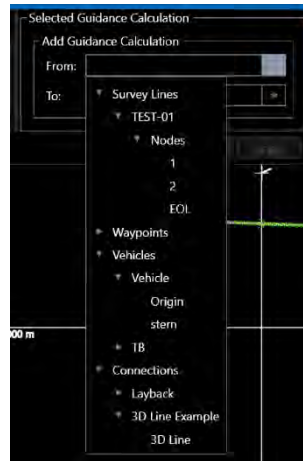

FIGURE 12-6 SELECT FROM OBJECT
3. Expand the **From** drop-down button to select the *From* object. The **From** items are either points or 3D polylines and are presented in a hierarchical tree as shown in Figure 12-6 where the last items in any branch are available for selection.